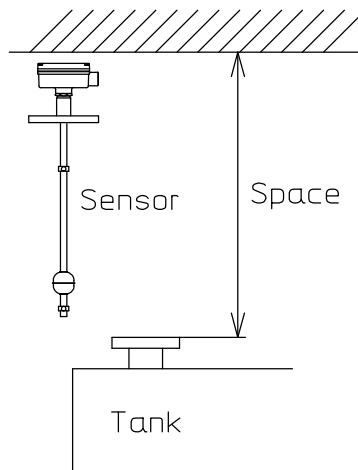

Fig.7
- (1) Avoid areas with corrosive atmosphere (NH_3 , SO_2 , Cl_2).
- (2) Observe the specifications when mounting the sensor where vibration is expected.
- (3) When mounting on a tank, ensure ample space above and around the mounting point for easy handling and maintenance. (Fig. 7)